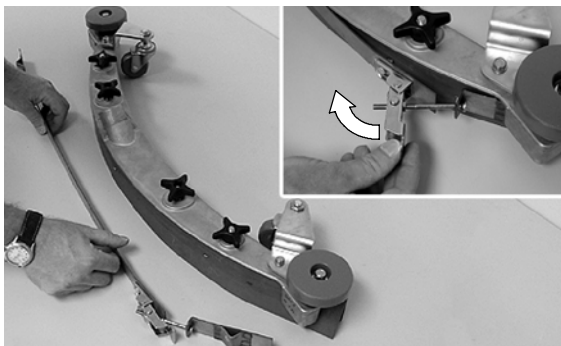

FIG. 59
2. Loosen the band clamp and remove the band from the squeegee assembly (Figure 59).